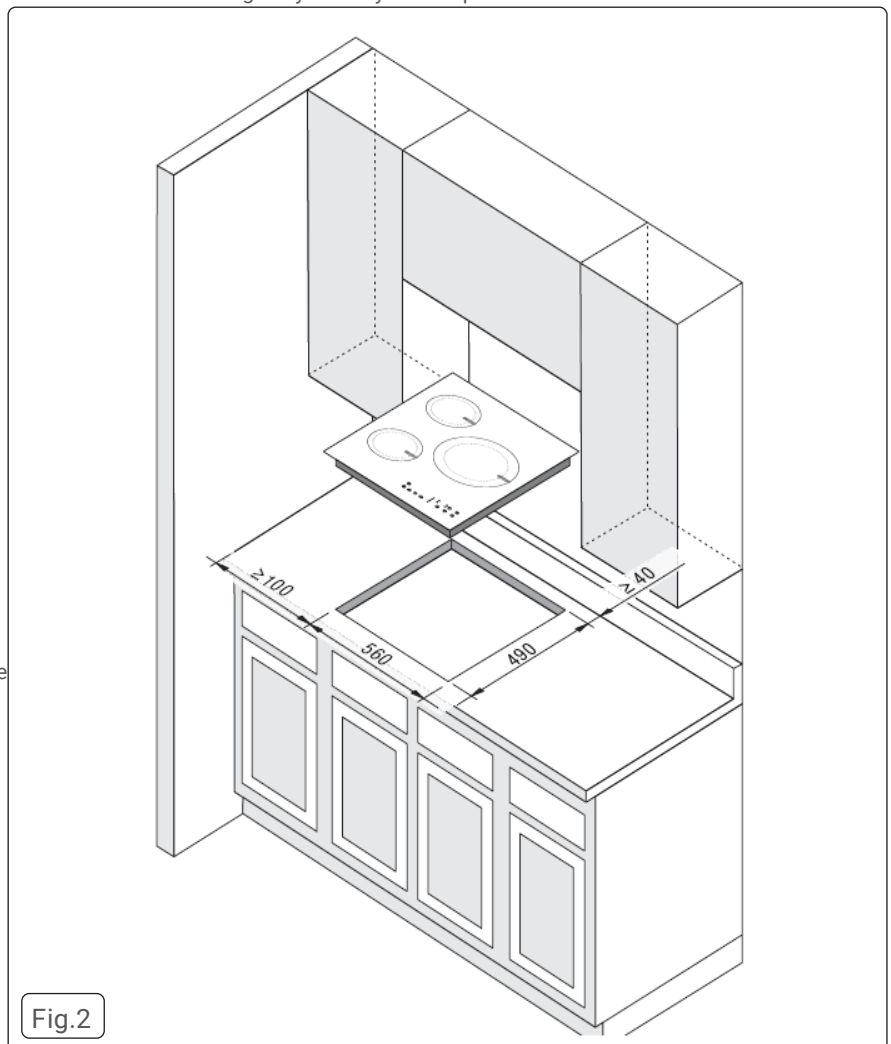

Fig.2
- **POSITIONING THE APPLIANCE SEE FIG.2**
- The appliance can be installed on a work surface with a distance of between 30 and 40 mm and near to walls which are higher than the work surface, maintaining a minimum distance of 100 mm (see fig.2).
- Prepare the cut as indicated (see installation dimensions fig.2, fig.3).
- Refer to fig.2 for location